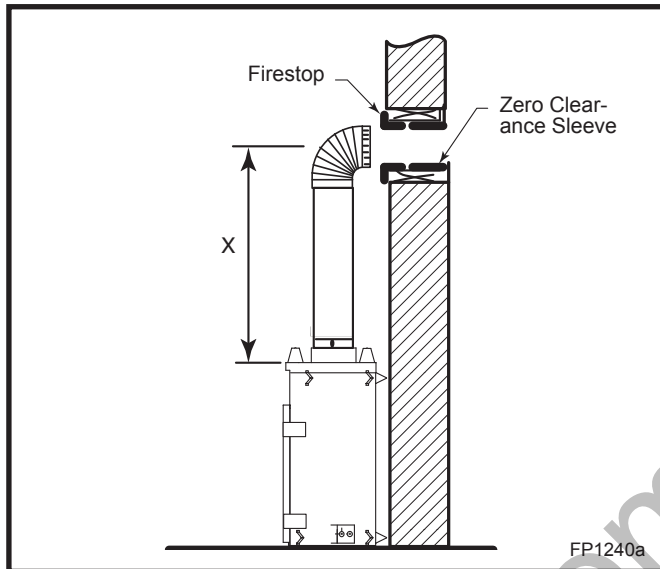

Fig. 23 Vertical height requirement.
Place fireplace into position. (Fig. 23) Measure the vertical height (X) required from the base of the flue collars to the center of the wall opening. **NOTE:** If using the SK8DVSK Kit, the vertical section of pipe is telescopic and could provide adjustment from 24" up to 40" (610 mm to 1016 mm).